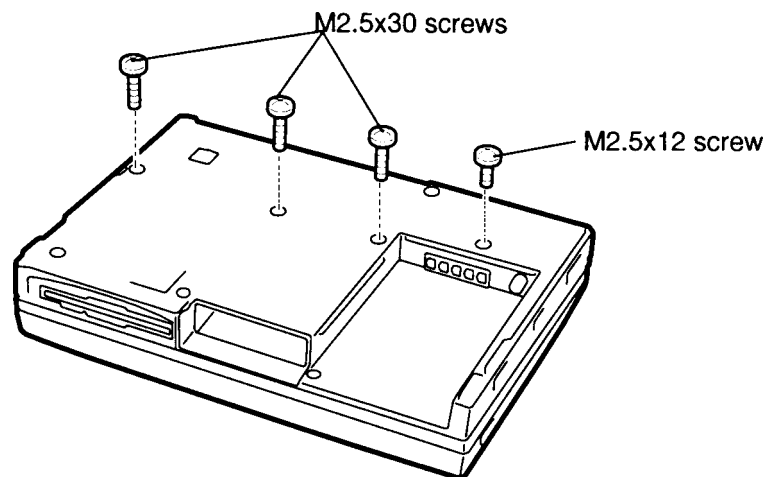

Figure 4-11 Removing screws (bottom of the computer) securing the top cover
To remove the T4850CT's top cover, follow the steps below and refer to Figures 4-11 to 4-13.
3. Turn the computer upside down and remove **three M2.5x30 screws** securing the top cover of the T4850CT and **one M2.5x12 screw** (Figure 4-11).
6. Secure the **three M2.5x30 screws** and **one M2.5x12 screw** on the bottom of the T4850CT (Figure 4-11).